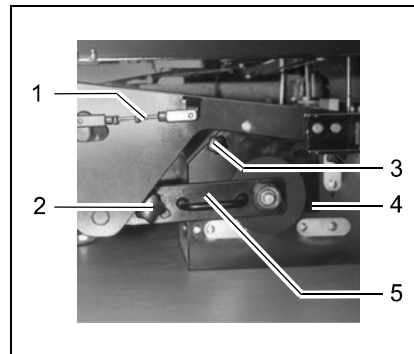

Fig. 39
5. Unscrew the knurled screw for the brush swing arm (Fig. 39/2).
6. Pull off the brush swing arm (Fig. 39/5).
7. Unscrew the knurled screw for the brush space cover (Fig. 39/3).
8. Remove the brush space cover (Fig. 39/4).